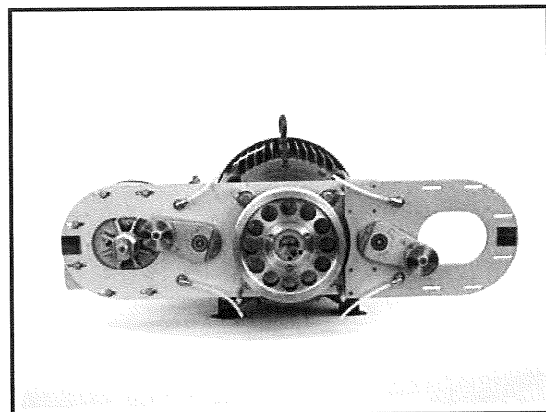

Figure 18 - Reinstall Blower Heads
6. Rotate the blower head to desired rotation and reinstall the eight screws to the proper torque specifications. (See Section 7.2 - Torque Specifications) (See Figure 18)